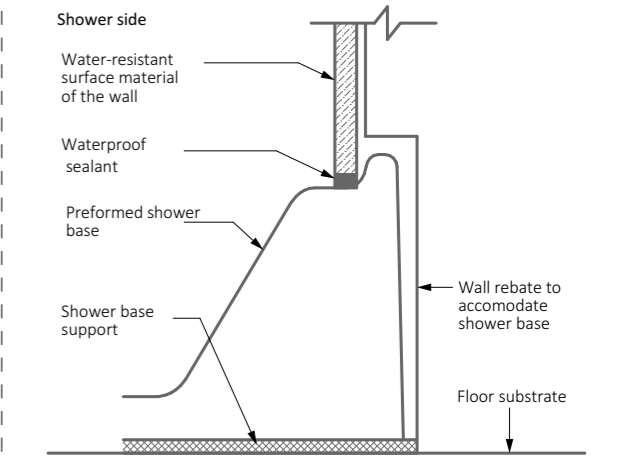
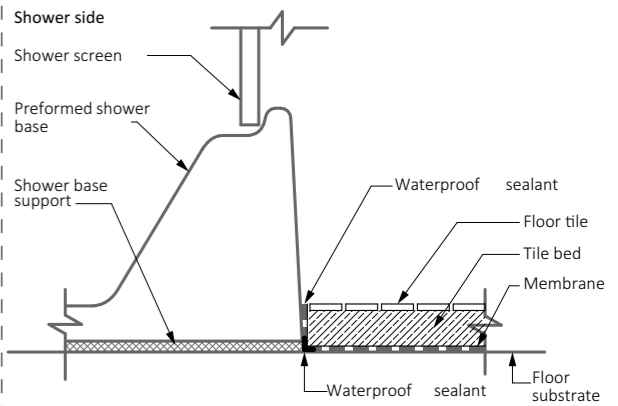

FIGURE: 10.2.19A
FIGURE: 10.2.19B
- a. HAVE AN UPTURN LIP (SEE FIGURE 10.2.19A AND FIGURE 10.2.19B); AND
- b. BE RECESSED INTO THE WALL TO ALLOW THE WATER RESISTANT SURFACE MATERIALS AND SUBSTRATE MATERIALS TO PASS DOWN INSIDE THE PERIMETER UPTURN LIP OF THE SHOWER BASE (SEE FIGURE 10.2.19A AND FIGURE 10.2.19B); AND